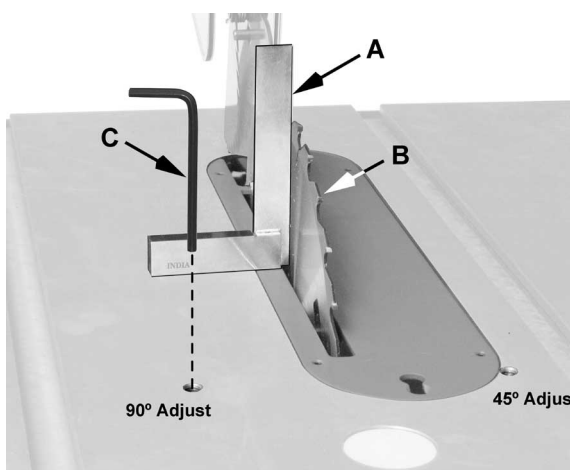

Figure 23
4. Place a square (A, Fig. 23) on the table and check to see that the blade (B, Fig. 23) is at a 90° angle to the table. Make sure that the square is not touching a blade tooth.
5. Back out the 90° adjust setscrew (turn counterclockwise) one or two turns with a 4mm hex wrench (C, Fig. 23).